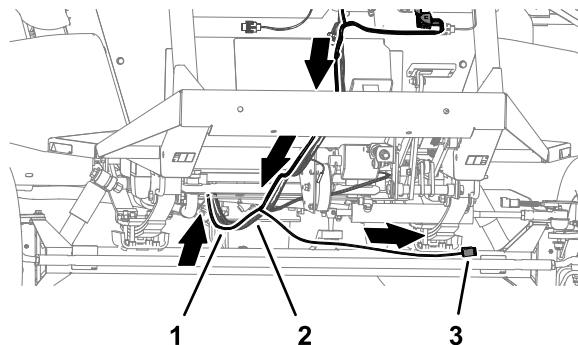

Figure 94
1. Route the wire harness for the kit rearward, along the wire harness for the machine (Figure 94).
2. Route the wire harness branch with the connector labeled WHEEL ANGLE SENSOR along the back of the front axle tube (Figure 94).